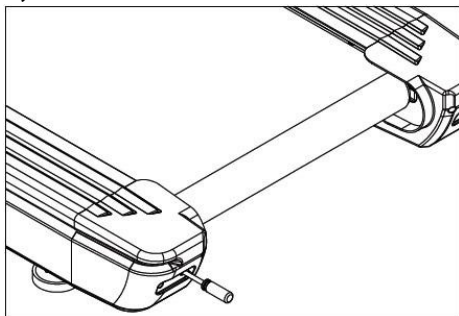

Figure 4.5.1
- 7) As shown in Figure 4.5.1, use screwdriver to remove the left and right adjustment screw.